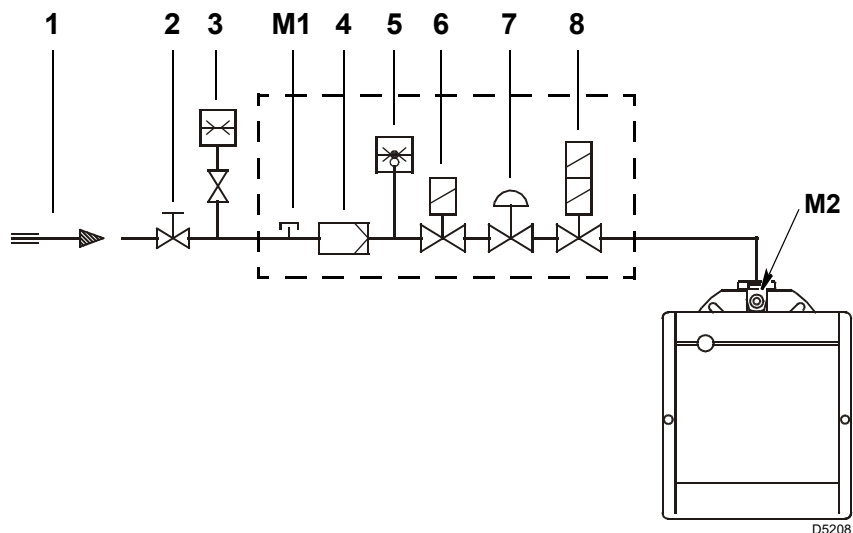

Fig. 17
Key (Fig. 17)
Gas pressure measured at test point M2)(Fig. 17), with:
- subtract the pressure in the combustion chamber from the pressure of the gas at test point M2)(Fig. 17).
$$\begin{aligned} \text{Gas pressure at test point M2)(Fig. 17)} &= 12.2 \text{ mbar} \\ \text{Pressure in combustion chamber} &= 2.2 \text{ mbar} \\ 12.2 - 2.2 &= 10.0 \text{ mbar} \end{aligned}$$
To calculate the required gas pressure at test point M2)(Fig. 17), with the maximum modulating output at which you want the burner to operate having been fixed:
- Read on the right, column 1, the pressure at the socket M2)(Fig. 17).
pressure required at the test point M2)(Fig. 17).